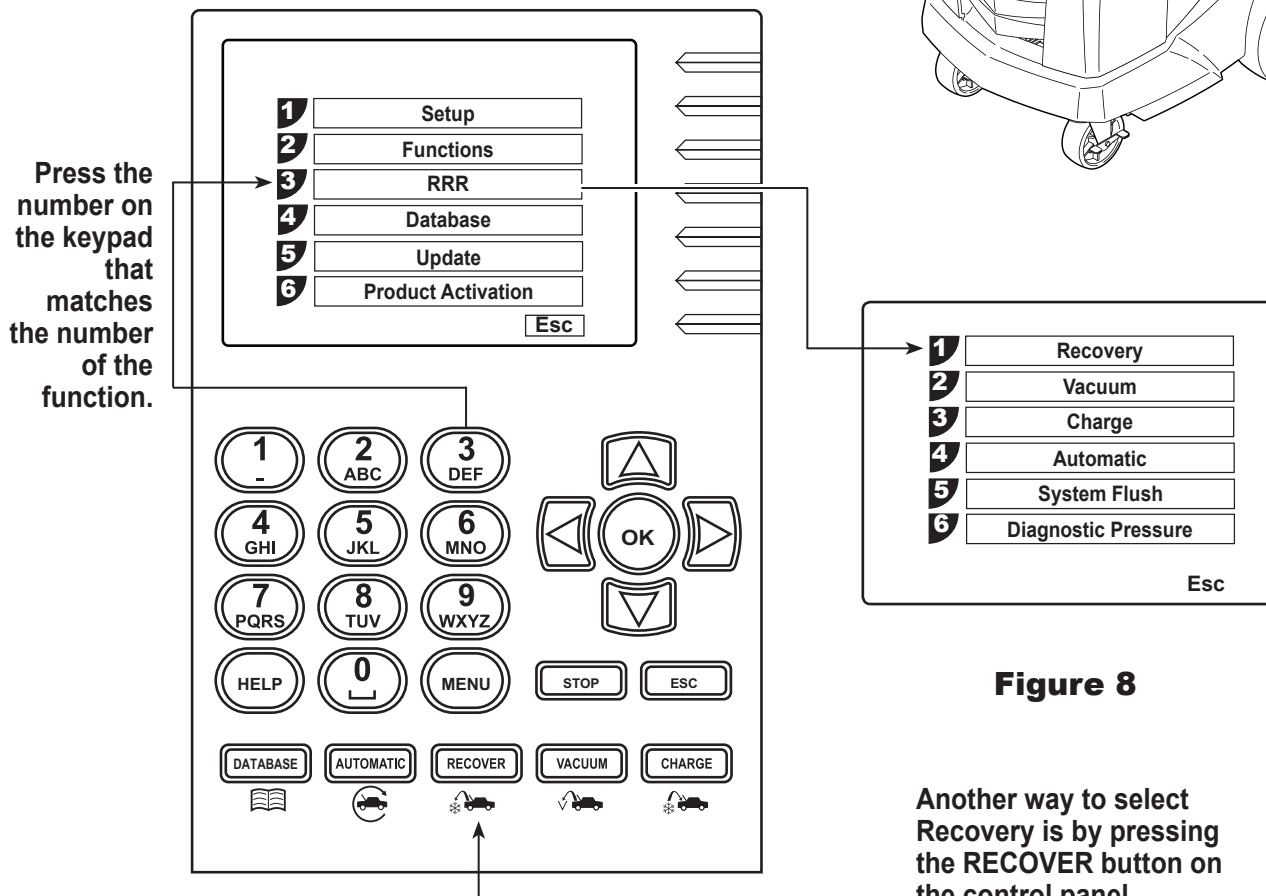

Figure 8
4. Select the **RECOVERY** function by pressing the Recover button on the control panel, or by selecting Recovery from the RRR menu as shown in Figure 8.